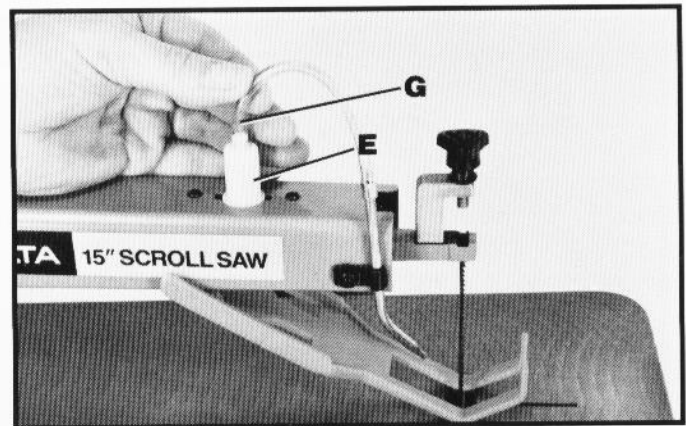

Fig. 10
6. Attach the remaining end of chip blower tube (G) Fig. 10, to plug housing (E).